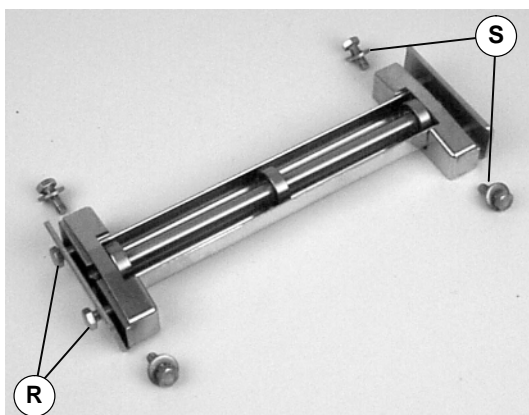

Figure 15
2. Loosen screws (R of Figure 15) and remove screws and washers (S).